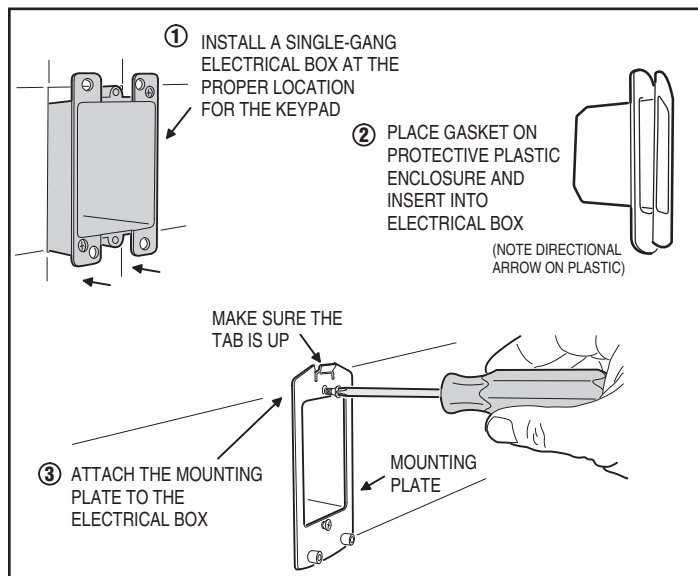

Figure 4. Installing the Mounting Plate
- ❑ Screw the mounting plate onto the electrical box (see Figure 4).